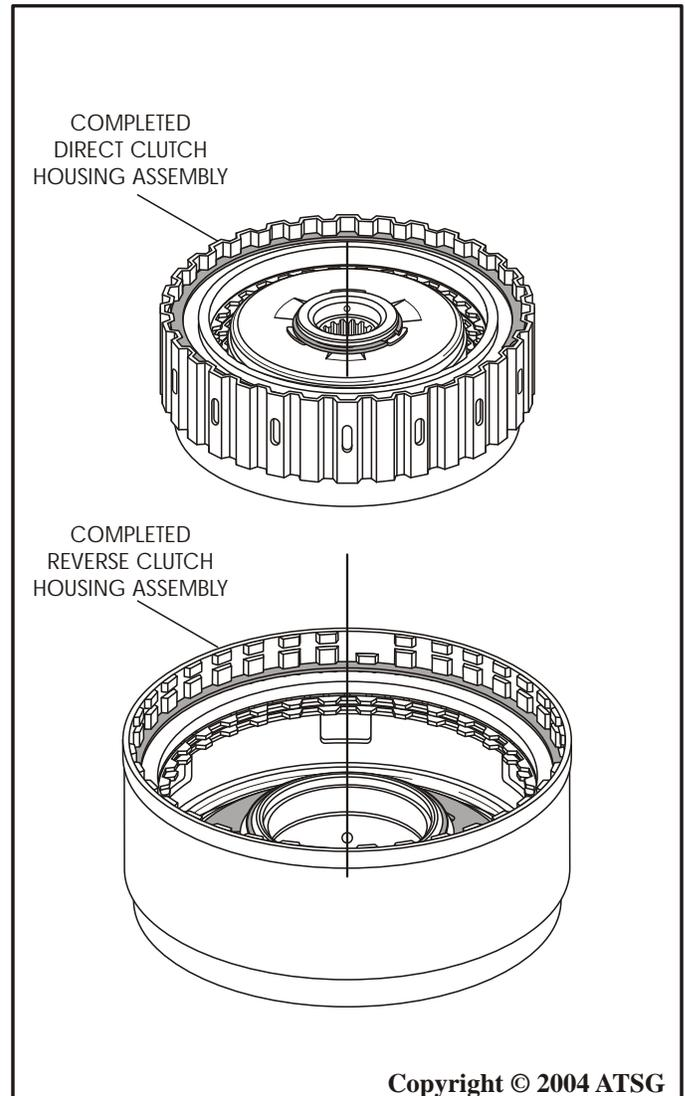

Figure 85
1. Lay the completed reverse clutch housing on a flat work surface, as shown in Figure 85.
2. Install the completed direct clutch housing into the completed reverse clutch housing, rotating back and forth to engage reverse clutches onto the direct clutch housing (See Figure 85).